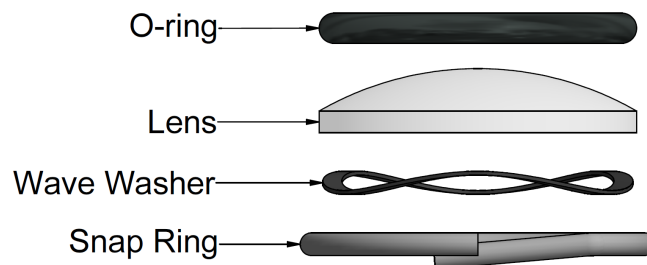

Figure 1: Lens Installation
1. If neither lens AGG02 nor AGG03 is needed, go to step 2. Place thermal barrier **THERMAL-1X75** so that the end with external threads is facing up. In order, drop in the O-ring, lens (for AGG03, the domed side should face the O-ring), wave washer, and snap ring as shown below in Figure 1. The snap ring should snap into the annular groove of **THERMAL-1X75**.